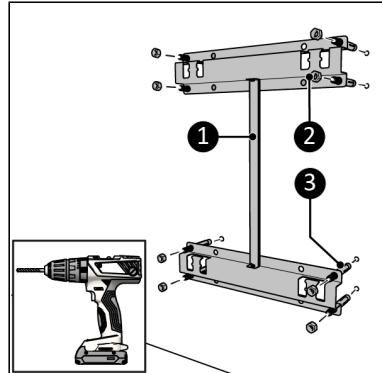

Figure 33.
3. Place the anchor bolts (Figure 33, pos 3).
4. Tighten the wall bracket (Figure 33, pos. 1) to the wall with the eight nuts (Figure 33, pos. 2).